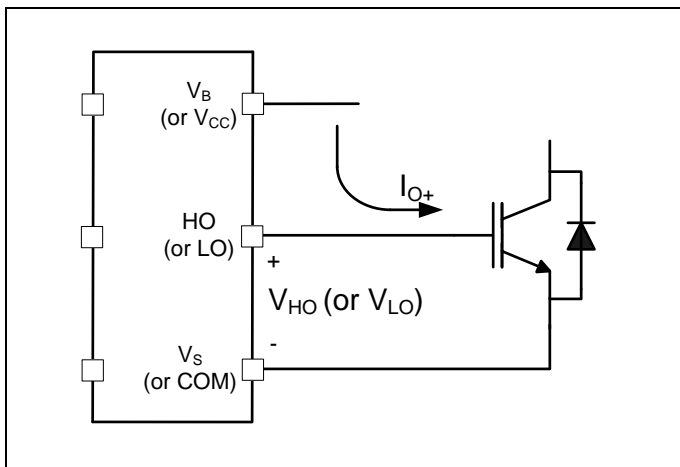

Figure 4 HVIC Sourcing current
The 2ED2184 (4) S06F (J) HVIC is designed to drive MOSFET or IGBT power devices. Figures 4 and 5 illustrate several parameters associated with the gate drive functionality of the HVIC. The output current of the HVIC, used to drive the gate of the power switch, is defined as  $I_O$ . The voltage that drives the gate of the external power switch is defined as  $V_{HO}$  for the high-side power switch and  $V_{LO}$  for the low-side power switch; this parameter is sometimes generically called  $V_{OUT}$  and in this case does not differentiate between the high-side or low-side output voltage.